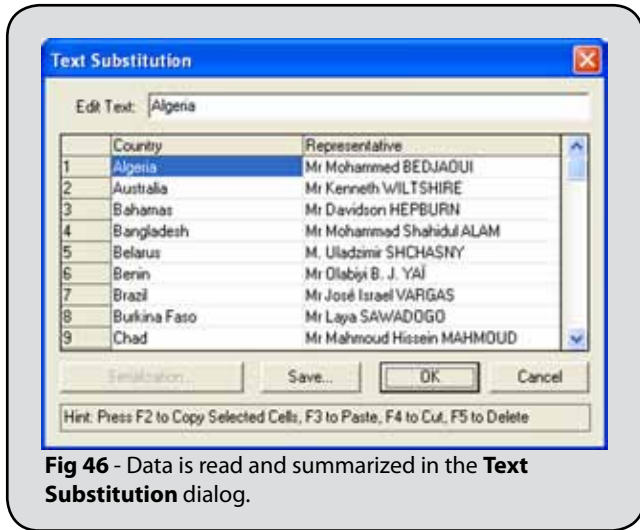

Fig 46 - Data is read and summarized in the **Text Substitution** dialog.
2. The **Text Substitution** dialog will open. (Fig. 46)